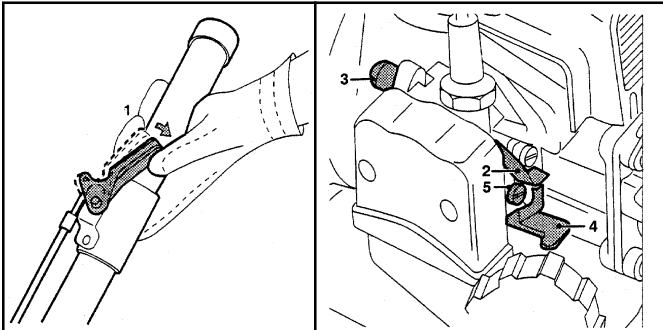

Figure 2.5
3. Adjust the throttle-lever (1) to the idle-position.(Fig 2.5)
4. Put the choke-lever (2) in the upper position.(Fig 2.5)
5. Push simultaneously the black priming pump (3) and the tickler lever (4) (Fig 2.5) until fuel comes out of the overflow pipe (c). (Fig 2.4)
Careful! : Never change the adjustment of the main jet screw on the carburetor (5).(Fig 2.5)
9. Allow the engine to run for approx. 10 seconds. Push the choke lever (2) (Fig 2.5) slowly down. The period of time depends on the ambient temperature.
— Put the throttle lever (1) in the idle position. (Fig 2.5)